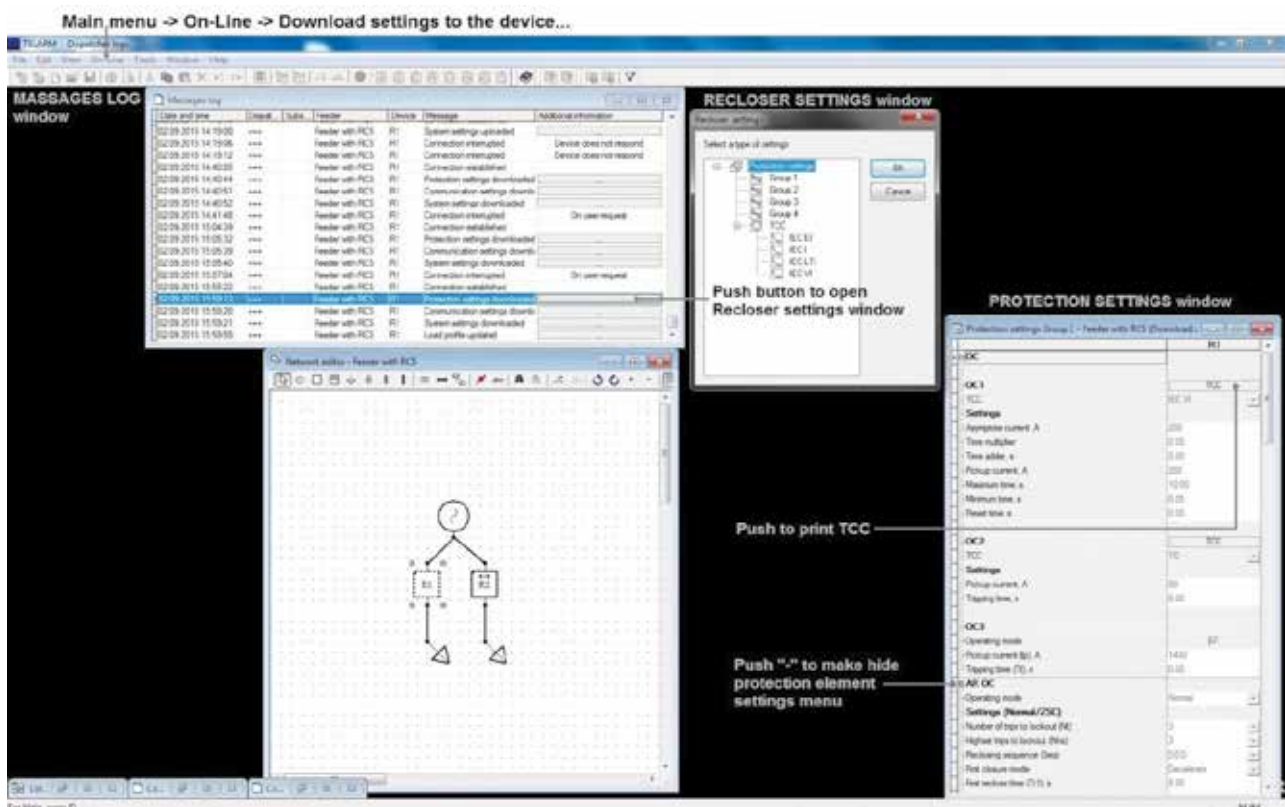

Figure 41
- 2) In "On-Line" menu click "Download settings from the device..." (see Figure 41)
- 3) The successful downloading reading will appear in Connection log in case connection was established via PCI or in Messages log in case connection was established via TCI (Figure 41).